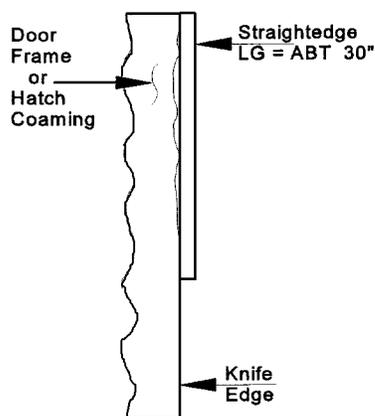
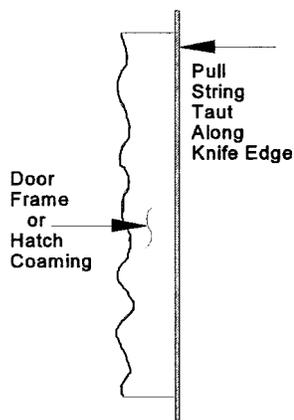
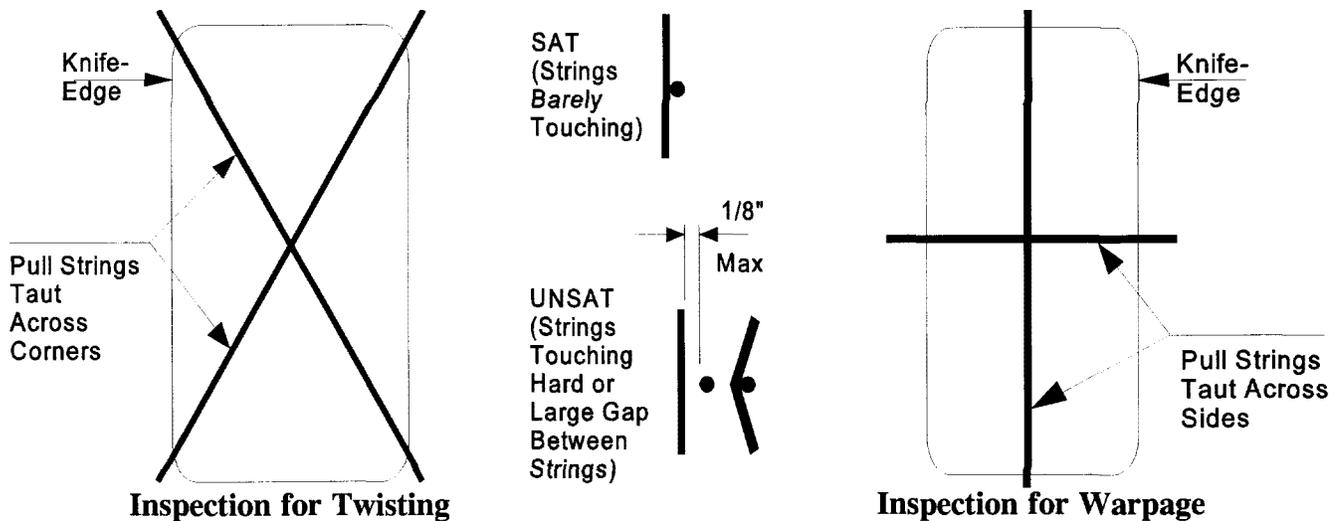

Figure 2-20. Knife-Edge Inspection Using Straightedge Method
Figure 2-21. Knife-Edge Inspection Using String Method
Figure 2-22. Knife-Edge Inspection for Warpage
- a. Open the fitting. Inspect the knife-edge for straightness and/or warpage using a straightedge and two lengths of string. See figure 2-20, figure 2-21, and figure 2-22. The maximum acceptable variation for knife-edge straightness is plus or minus 1/16 inch. The maximum acceptable warpage of the door frame is 1/8 inch. If frame/coaming warpage is excessive, or if the knife-edge straightness is not within tolerances, initiate action to replace the closure.